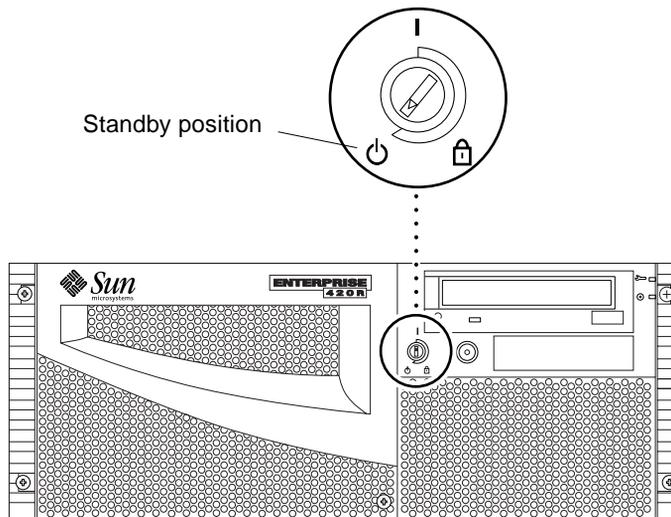

FIGURE 6-7 Setting the Standby Position
5. **Turn the key switch on the front panel of the file server or the compute engine to the Standby position (FIGURE 6-7).**